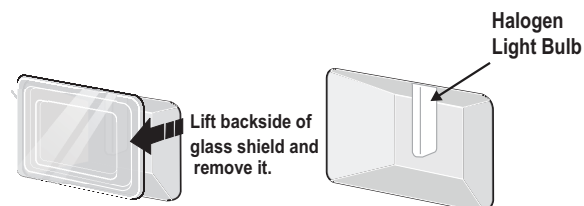

Figure 34: Light shield and bulb
2. To remove the glass shield, pull the back side of the shield toward the inside of the oven in a manner to lift it up from the oven side. The glass shield should come out easily by pushing a little toward front of the wall oven (Figure 34).